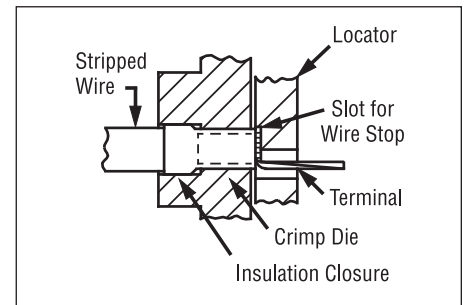
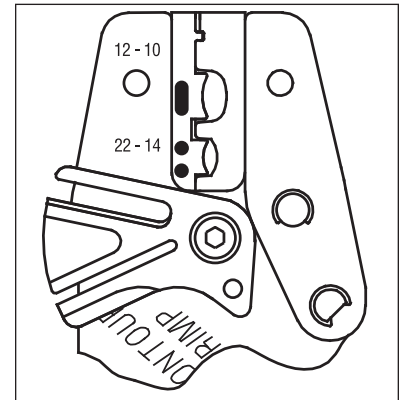
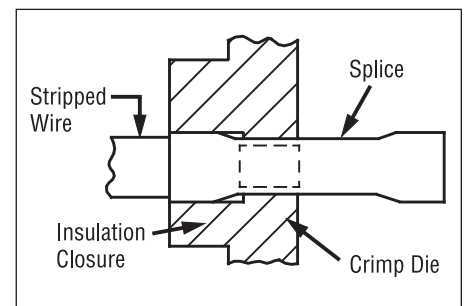

Figure 4
Figure 5
Figure 6
1. With the handles in the **open** position, swing the locator out of the way (See Figure 4). The locator will detent and “lock” in this position. For splices, insert the splice in the proper crimp pocket (See Figure 1) so that the crimp is located on the barrel of the splice (See Figure 5). For fully insulated disconnects, insert the disconnect in the proper crimp pocket (See Figure 1) so that the crimp is located on the barrel of the disconnect (See Figure 6). Refer to product packaging for selection of proper crimp pocket.
2. With the handles in the **open** position, swing the locator out of the way (See Figure 4). The locator will detent and "lock" in this position. Insert the wire joint from the back (locator) side of the crimp tool in the proper crimp pocket (See Figure 1) so that the ribs of the molded insulator (where applicable) are positioned against the crimp die (See Figure 9). Refer to product packaging for selection of proper crimp pocket.
2. Swing the locator out of the way (See Figure 4), and inspect the crimping dies for worn, chipped or broken edges.